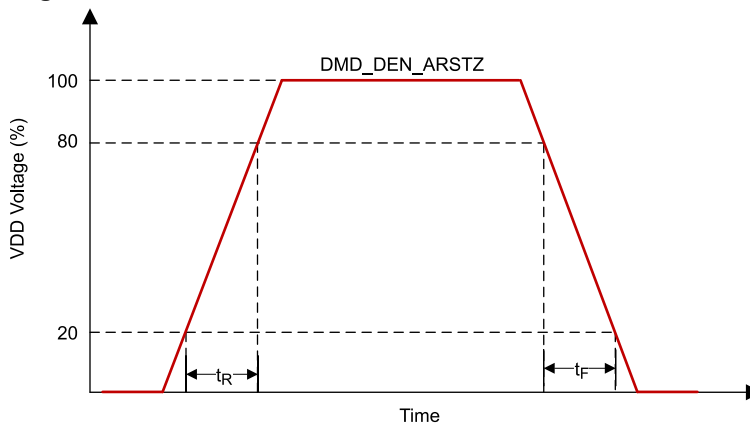

Figure 5-2. LPSDR Input Rise and Fall Slew Rate
- (1) Specification is for DMD\_DEN\_ARSTZ pin. Refer to LPSDR input rise and fall slew rate in Figure 5-2.